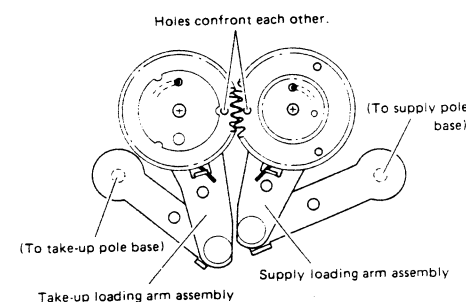

Fig. 2-9 Loading arm assembly (2)
2. Install the take-up loading arm assembly and the supply loading arm assembly so that the holes on the loading gears face each other, as shown in Fig. 2-9. Do not move the loading arm assemblies from this position for the next step.